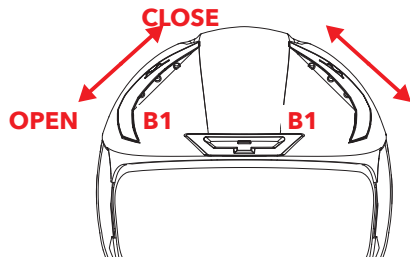

FIGURE 6
FRONT SIDE AIR INTAKE – B1 – Figure 6
- Figure 6: move the cursor outwards to open the air intakes/Move the cursor towards the middle of the helmet to close the air intakes.